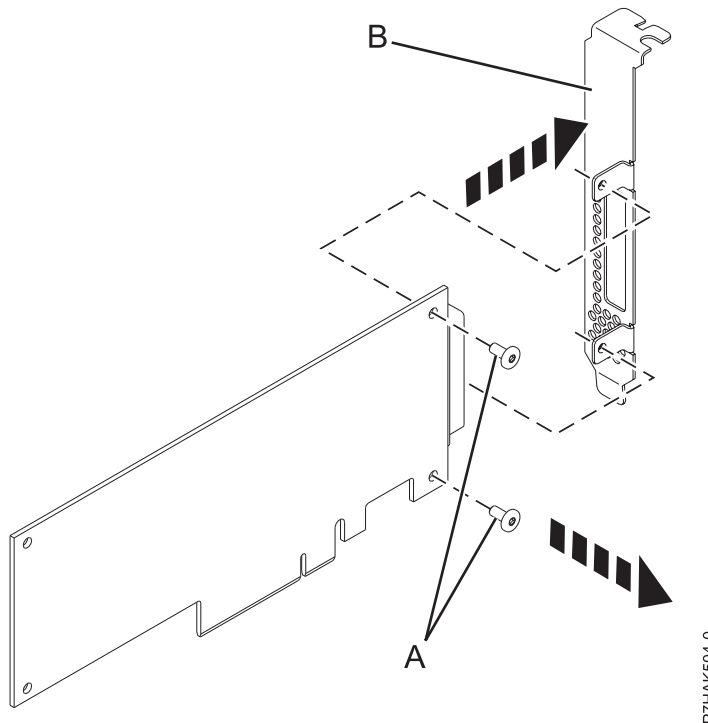

Figure 51. Removing the high-profile tailstock from a new PCIe adapter
8. Using a Phillips screwdriver, unscrew the two retaining screws (A) that attach the high-profile tailstock (B) to the new PCIe adapter, as shown in Figure 51.